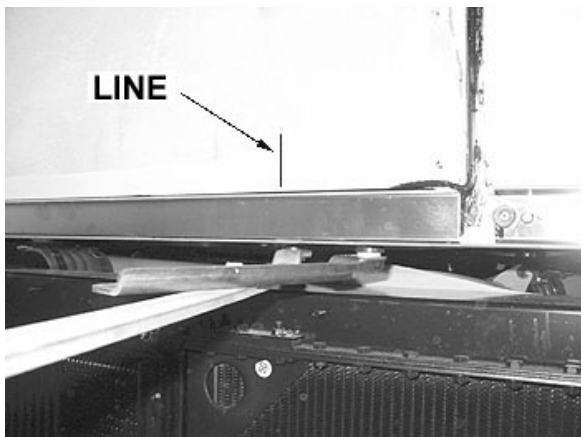

FIGURE 71: REFERENCE LINE
- Using a rubber mallet, adjust the lower part of pantograph arm in order to get 4 ± 1 mm between lateral panel and engine door (Refer to Figure 71 and Figure 72).